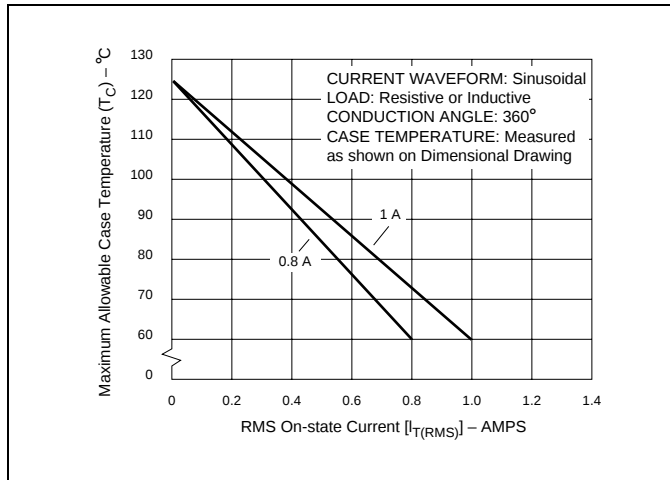

Figure E2.1 Maximum Allowable Case Temperature versus On-state Current (0.8 A and 1 A)
- (1) For either polarity of MT2 with reference to MT1 terminal
- (2) For either polarity of gate voltage (V_{GT}) with reference to MT1 terminal
- (3) See Gate Characteristics and Definition of Quadrants.
- (4) See Figure E2.1 through Figure E2.7 for current rating at specific operating temperature.
- (11) See package outlines for lead form configurations. When ordering special lead forming, add type number as suffix to part number.
- (12) Initial on-state current = 200 mA dc for 0.8 A to 10 A devices, 400 mA dc for 15 A to 35 A devices
- (13) See Figure E2.1 through Figure E2.6 for maximum allowable case temperature at maximum rated current.
- (14) Pulse width $\leq 10 \mu s$; $I_{GT} \leq I_{GTM}$
(18) Quadrants I, II, III only
(19) Minimum non-trigger V_{GT} at 125 °C is 0.2 V for all except 50 mA MAX QIV devices which are 0.2 V at 110 °C.